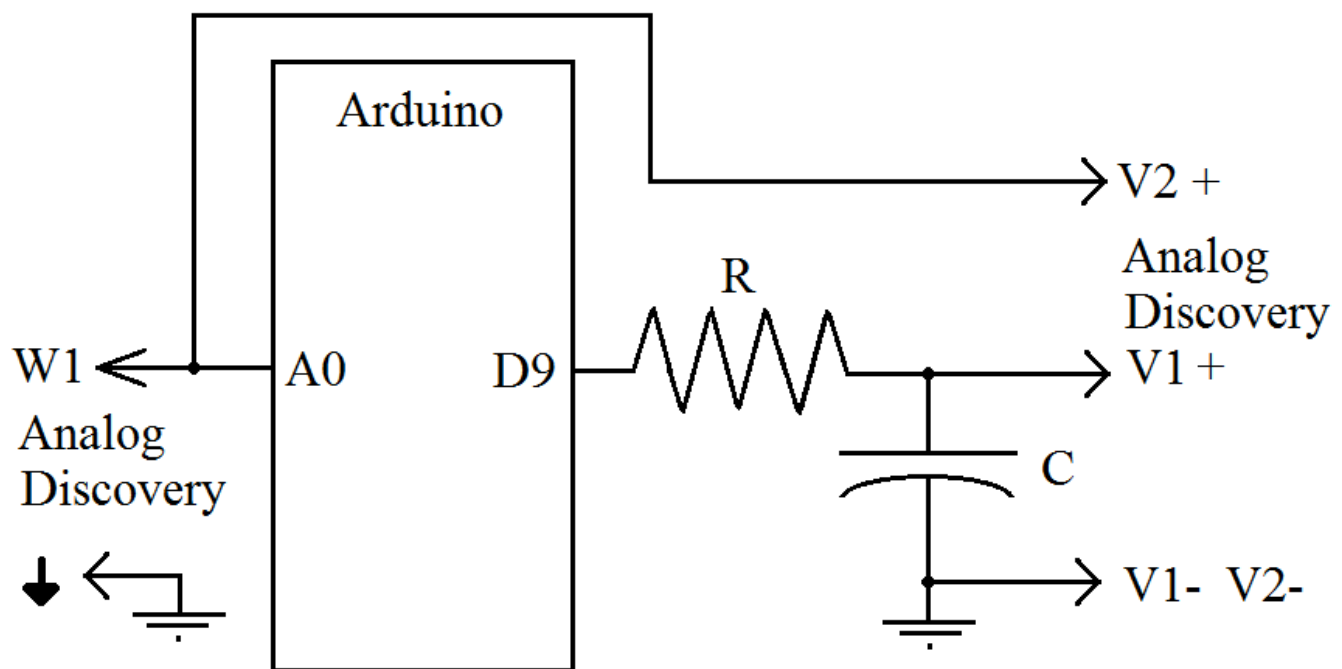

Figure 10-1. Analog Input and Output.
For this lab the first thing to do is hook up the circuit shown in Figure 10-1. The connection to the Analog Discovery is similar to that done in Lab 9, except now we are watching the input to the Arduino, the output from the PWM and we will use the Analog Discovery to generate a waveform as an input to our system. Also, note that no values were given for the R and C in the drawing. That is because we will be changing them through the course of the experiment. Initially they should be set to a $10\text{ K } \Omega$ (Brown, Black, Orange color coding) and a $0.1\text{ }\mu\text{F}$ (104 marking) capacitor.
- 1) Setup the circuit in Figure 10-1, using a 10 K Ω resistor and a 0.1 μ F capacitor. Set the